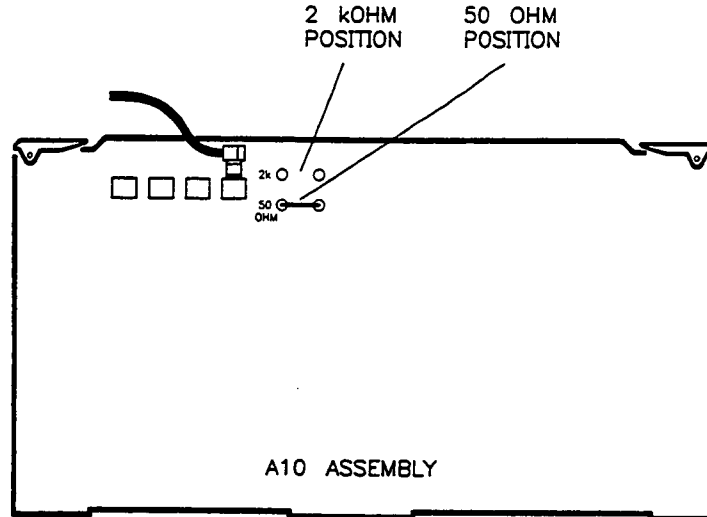

Figure 3-40. A10 Jumper Locations
2. Lift up the A10 ALC assembly far enough to access the jumper shown in Figure 3-40.